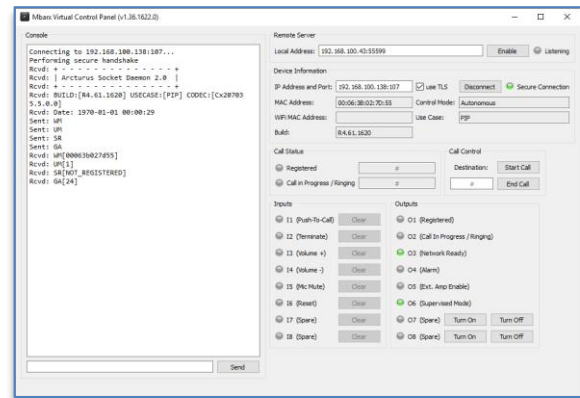

Figure 4 - Mbarx Virtual Control Panel
- Figure 4 - Mbarx Virtual Control Panel5